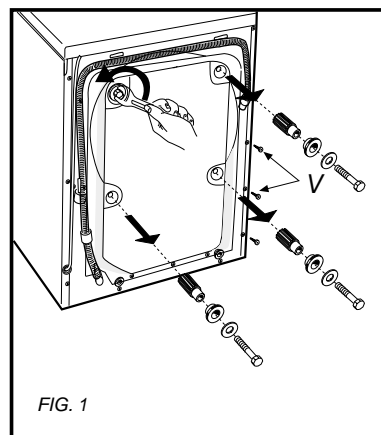

FIG. 1
3. The drum on both models is locked in position. Loosen the four locking bolts and remove them along with the plastic spacers (Fig. 1).
**NOTE:** If the plastic spacers cannot be removed, open the side panel by loosening the screws indicated as "V" in Fig. 1. Remove the spacers and replace the panel.